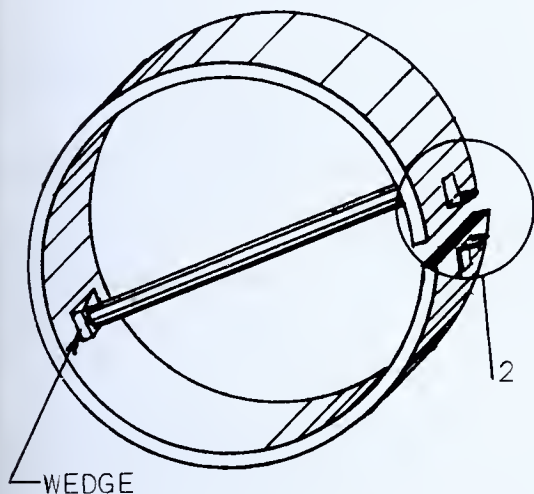

FIG. 375 — *Aligning the Edges of the Joint with a Pipe and a Wedge*
*2nd method.* Use a piece of pipe and wedge as shown in Fig. 375. Tack weld the wedge under the end of the pipe, and drive the wedge and the pipe in far enough to bring the edges of the joint even. The joint is then tack welded, and the pipe is moved to a new position. The tack welding is done on the side of the plate that is to be welded last. This side is determined by the type of welded joint specified on the blueprint.